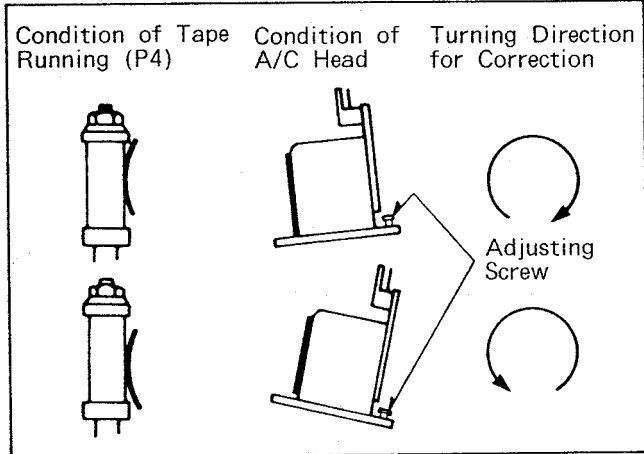

Fig. M8
1. Play back the beginning portion of NV-E240 blank cassette tape and confirm that the tape runs between lower and upper limiters of the P4 post. If there is waving or frilling in the lower edge or top edge of the tape, correct the tilt of the A/C head by turning the screw located behind the A/C head. (Fig. M8)